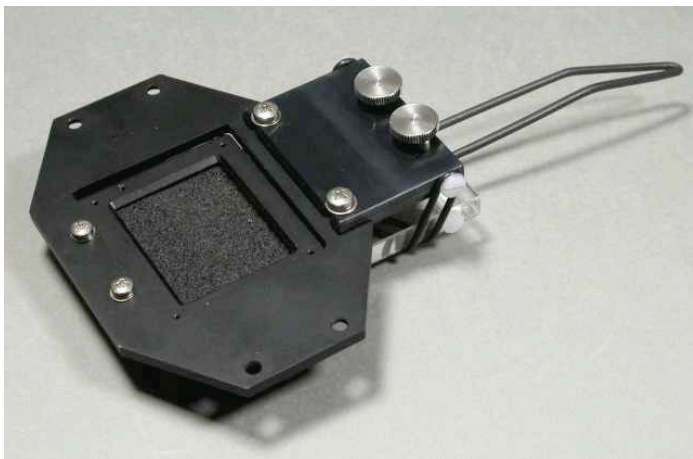
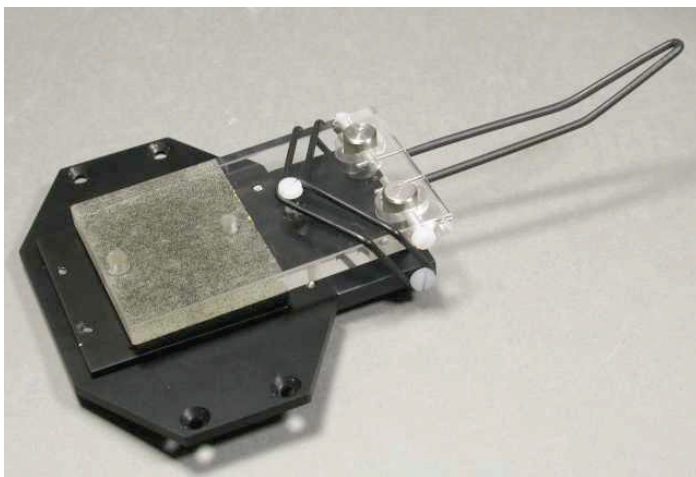

Fig. 35: Leaf clip mounted on sample platform of MINI-Head viewed from camera side
Fig. 36: Leaf clip mounted on sample platform of MINI-Head viewed from top side
First the frame (1) is mounted with two screws (2) on the sample platform of the MINI-Head. Then the clip (3) is fixed with two screws (4) to the sample platform. While Fig. 35 shows the mounted clip from the bottom (camera) side, Fig. 36 shows it from the top side.
On the Perspex top side of clip the nylon screw (5) is fixed which holds the two O-rings (6) which function as a spring forcing together the two parts of the clip (see Fig. 35 and Fig. 36). The O-rings may age and then must be replaced.